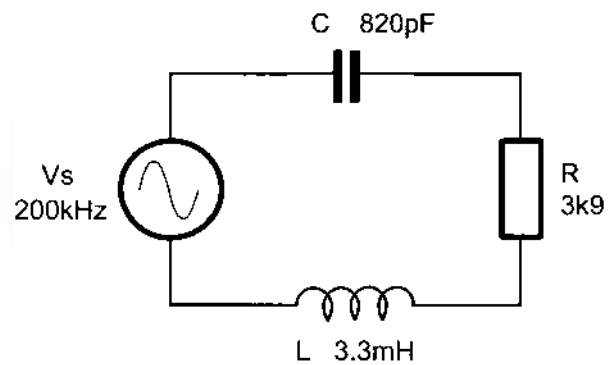

Figure 9
17. For the circuit of Figure 9, if the potential difference across the inductor (V_L) is 650mV (peak), then calculate: